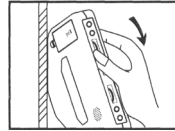

Fig.5
- 3.2.1 With the Stud Detection face against the wall, hold the unit vertically as shown in Fig.5 and turn knob A fully downwards.